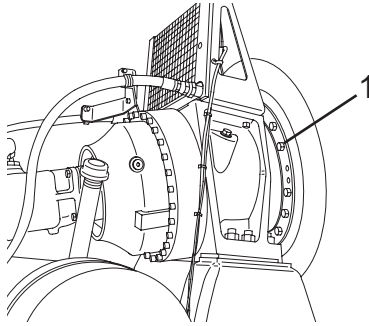

Figure 170
8. Check the drum flange bolt (Figure 170, Item 1) torque. (Refer to the Service Manual for torque